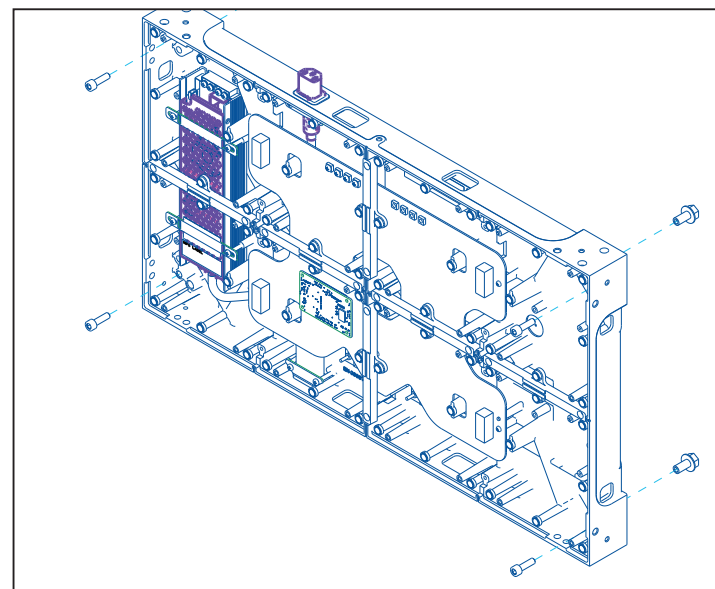
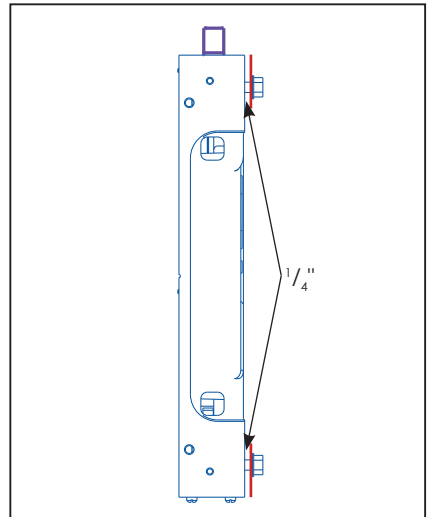

Figure 17: Install Hardware in First Panel
Figure 18: Leave $\frac{1}{4}$ " between Bolt Flange & Panel Rear
- Install four M6 bolts (HC-1795) through the front of the panel. Refer to **Figure 17** and **Figure 18**.
- Install four M8 bolts (HC-4884317) through the rear of the panel so the threads are engaged but not tightened all the way. Leave $\sim\frac{1}{4}$ " between the bolt flange and the rear of the panel. Refer to **Figure 17** and **Figure 18**.